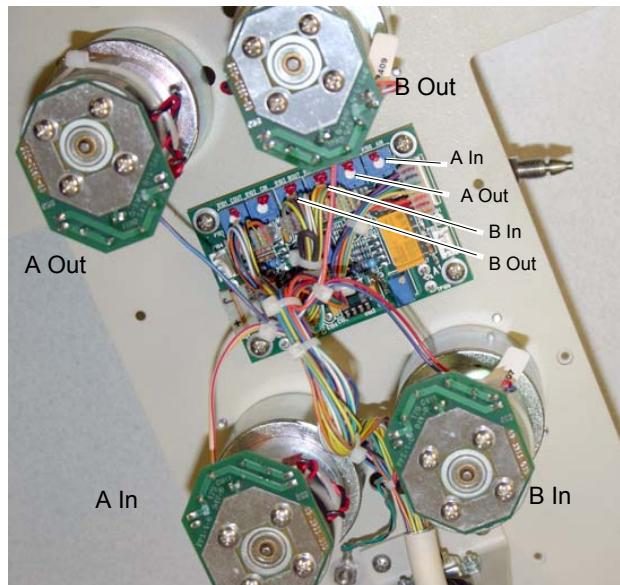

Figure 9-23 Electric valve motor adjustment
6. On the electric valve assembly CBA, adjust the corresponding potentiometer to the voltage printed on the side of the motor (refer to Figure 9-23).